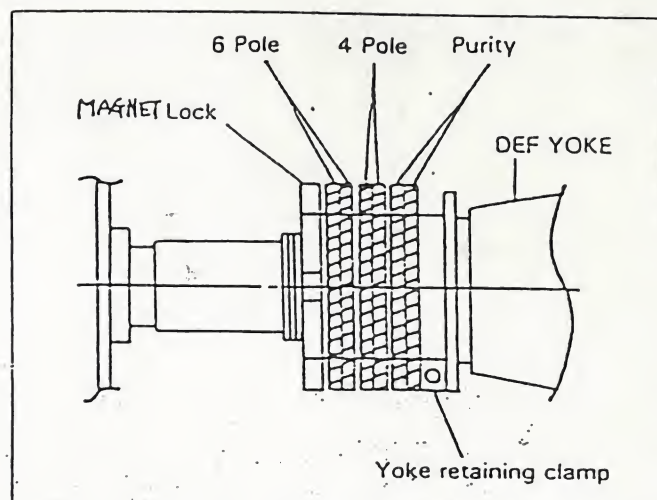

Fig. 2-1
2. As viewed from the back (See Fig. 2-1), turn the magnet lock counter-clockwise to loosen it.